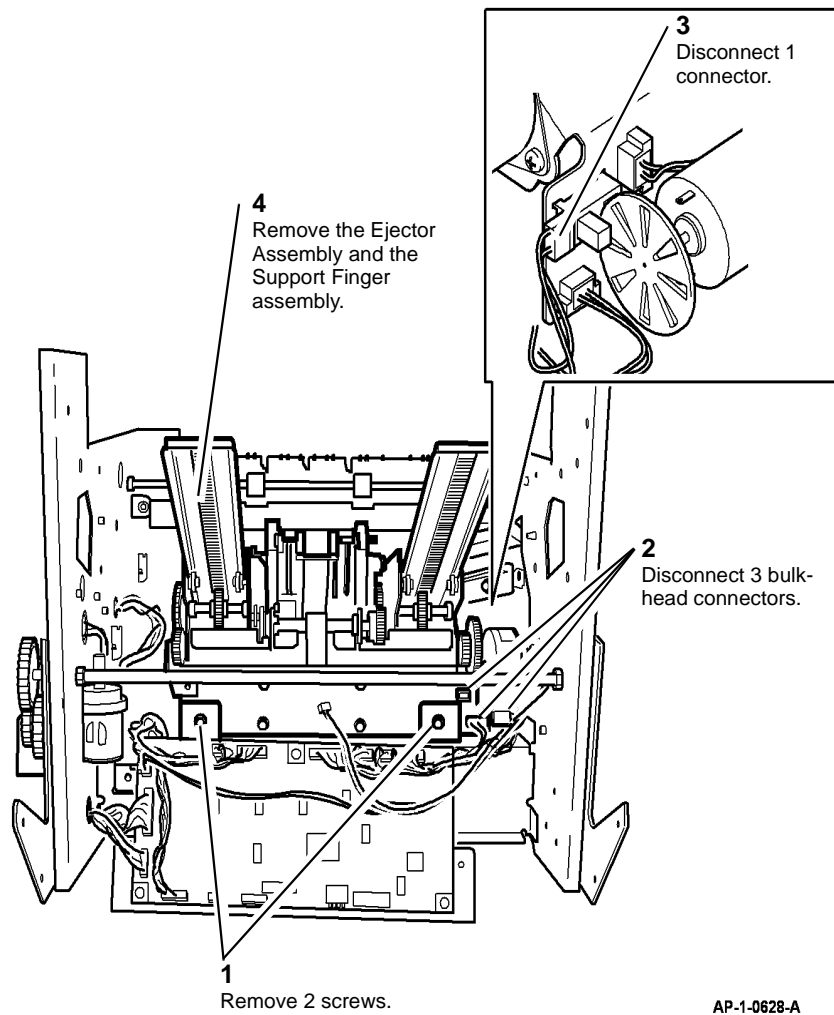

Figure 2 Removing the Ejector Assembly and Support Finger Assembly
- Remove the Ejector Assembly and Support Finger assembly (Figure 2)